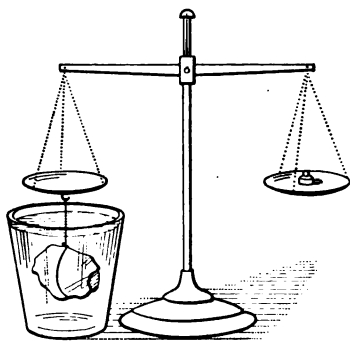

FIG. 33
**43. Methods for finding Specific Gravity.**— To find the specific gravity of a *solid* body, first weigh it in air, then weigh it immersed in water, as in Fig. 33.